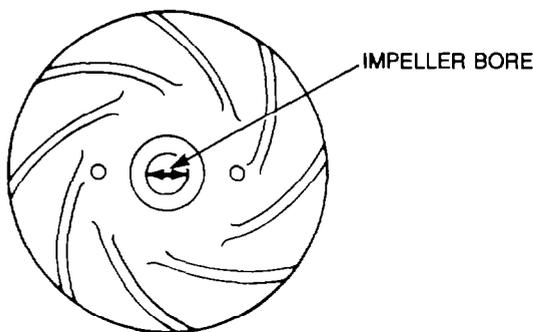

Figure 64 — Measuring Impeller Bore
- e. Measure the impeller bore as shown in Fig. 64 and replace the impeller if the measurement exceeds the minimum of 15.85 mm (0.624 in.) or the maximum of 15.88 (0.625 in.) .